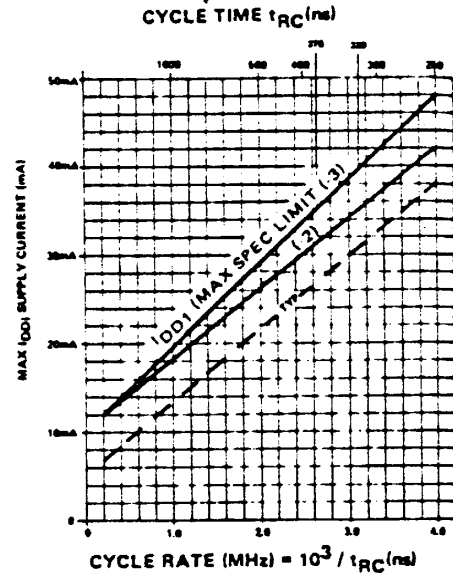

Fig. 2 Maximum IDD1 versus cycle rate for device operation at extended frequencies. IDD1 (max) curve is defined by the equation:
- IDD1, IDD3, and IDD4 depend on cycle rate. See figures 2, 3, or 4 for IDD limits at other cycle rates.
In system applications requiring lower power dissipation, the operating frequency (cycle rate) of the MK 4116 can be reduced and the (guaranteed maximum) average power dissipation of the device will be lowered in accordance with the IDD1 (max) spec limit curve illustrated in figure 2. NOTE: The MK 4116 family is guaranteed to have a maximum IDD1 requirement of 35mA @ 375ns cycle (320ns cycle for the -2) with an ambient temperature range from 0° to 70°C. A lower operating frequency, for example 1 microsecond cycle, results in a reduced maximum IDD1 requirement of under 20mA with an ambient temperature range from 0° to 70°C.